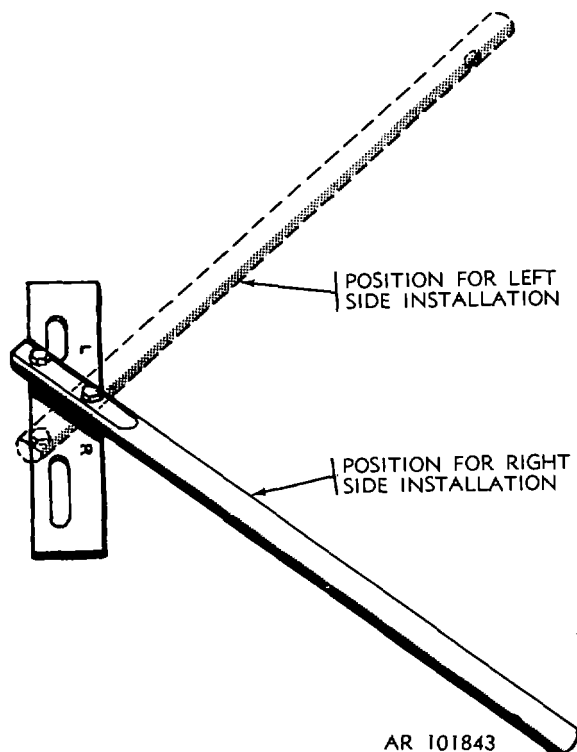

Figure 2-12. Guide bracket assembly.
d. If right side of towing vehicle is to be used- remove rear bolt and loosen front bolt on guide bracket assembly, pivot rod to be angled towards letter R. Replace rear bolt and tighten both bolts. Reverse procedures for left side of towing vehicle (fig. 2-12).